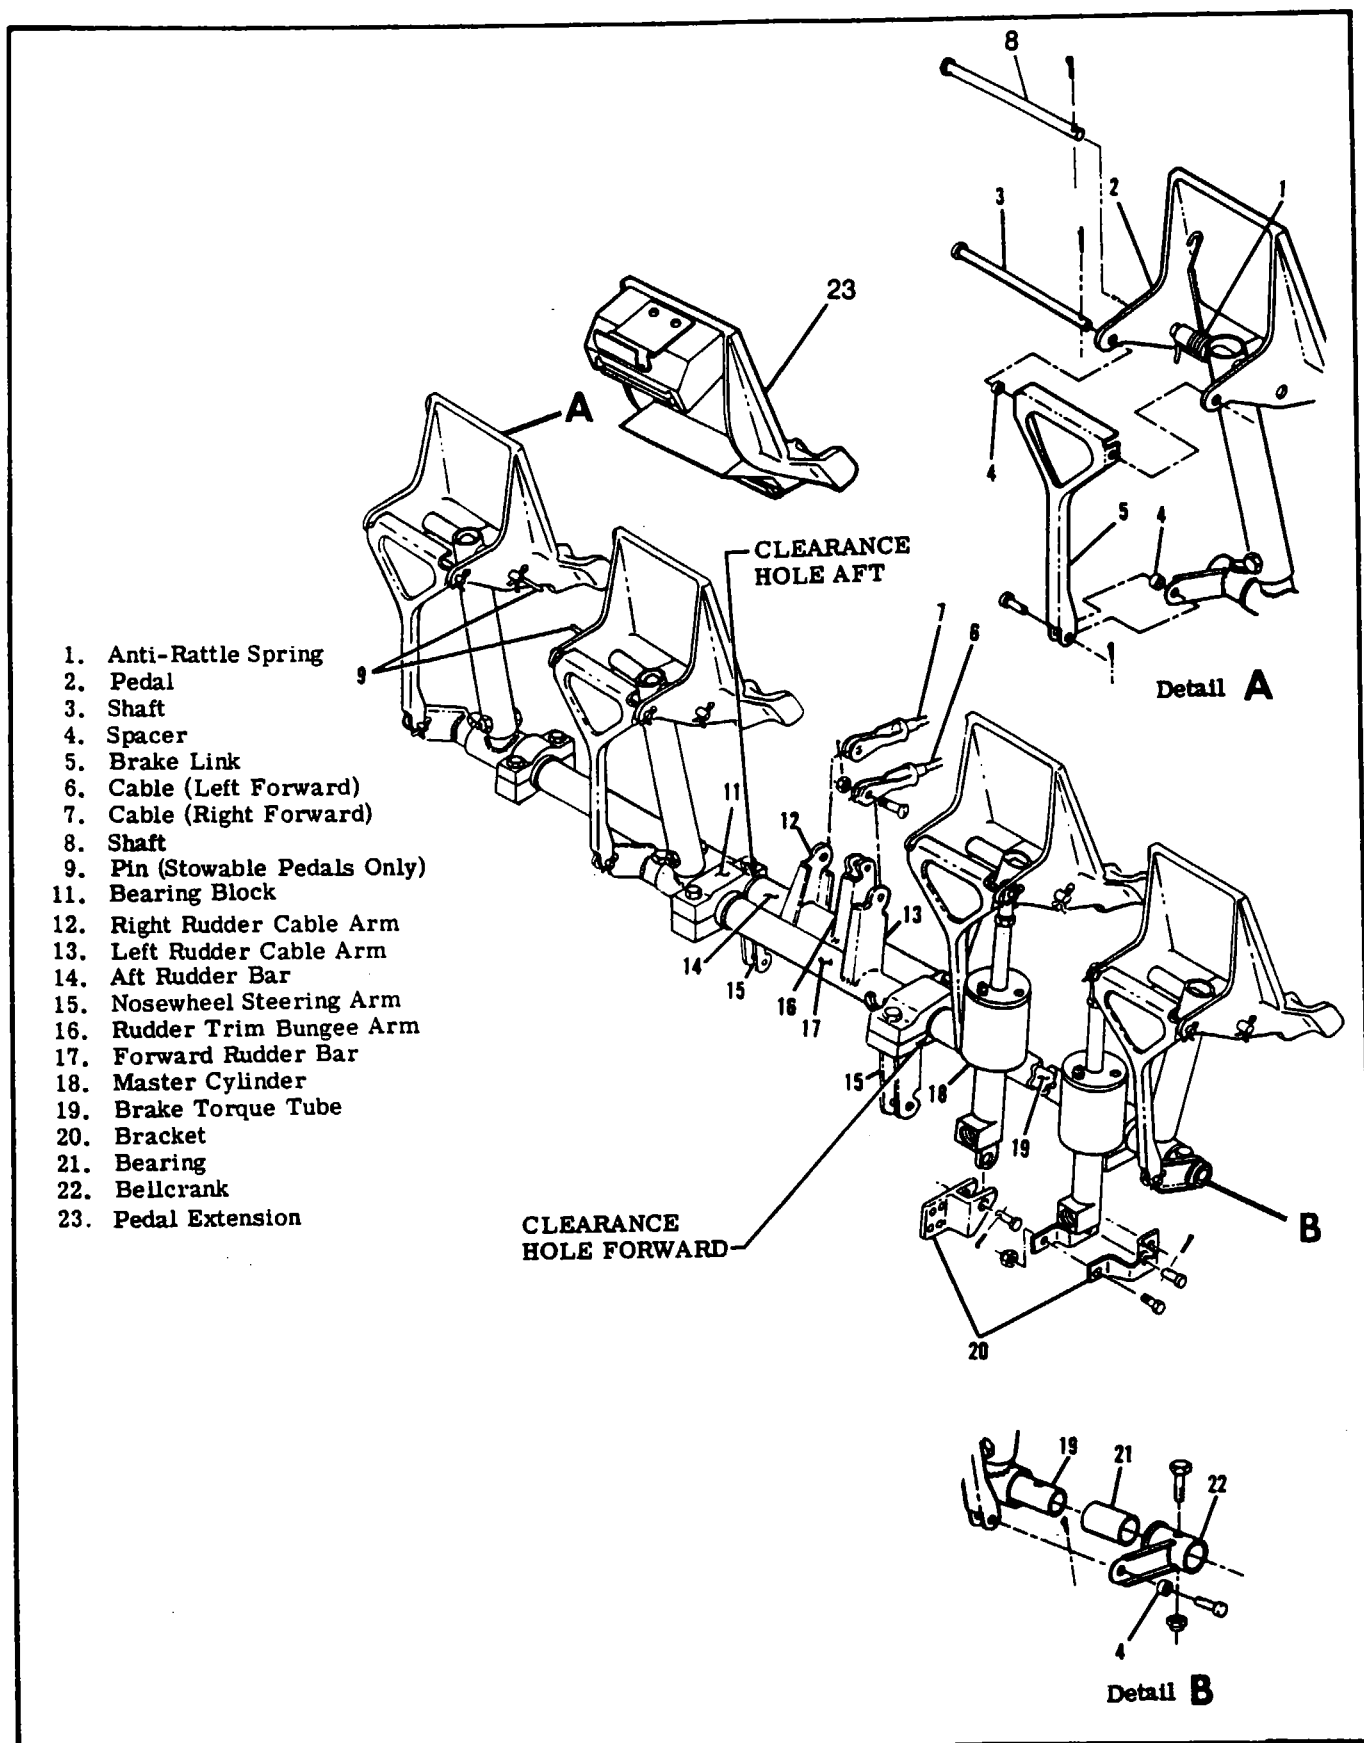

Figure 10-2. Rudder Pedal Installation
10-5. REMOVAL AND INSTALLATION. (Refer to figure 10-2.)
- i. (Refer to figure 10-2.) Remove bolts securing bearing blocks (11) and carefully work rudder bars out of tunnel area.
- h. Disconnect rudder trim bungee from rudder bar arm (index 16, figure 10-2).